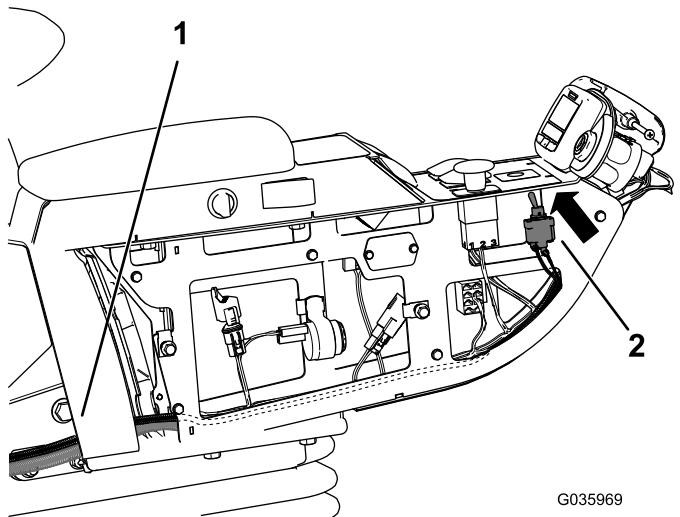

Figure 20
- Pull the toggle switch/wire harness through the center console up to the drilled hole (Figure 20).